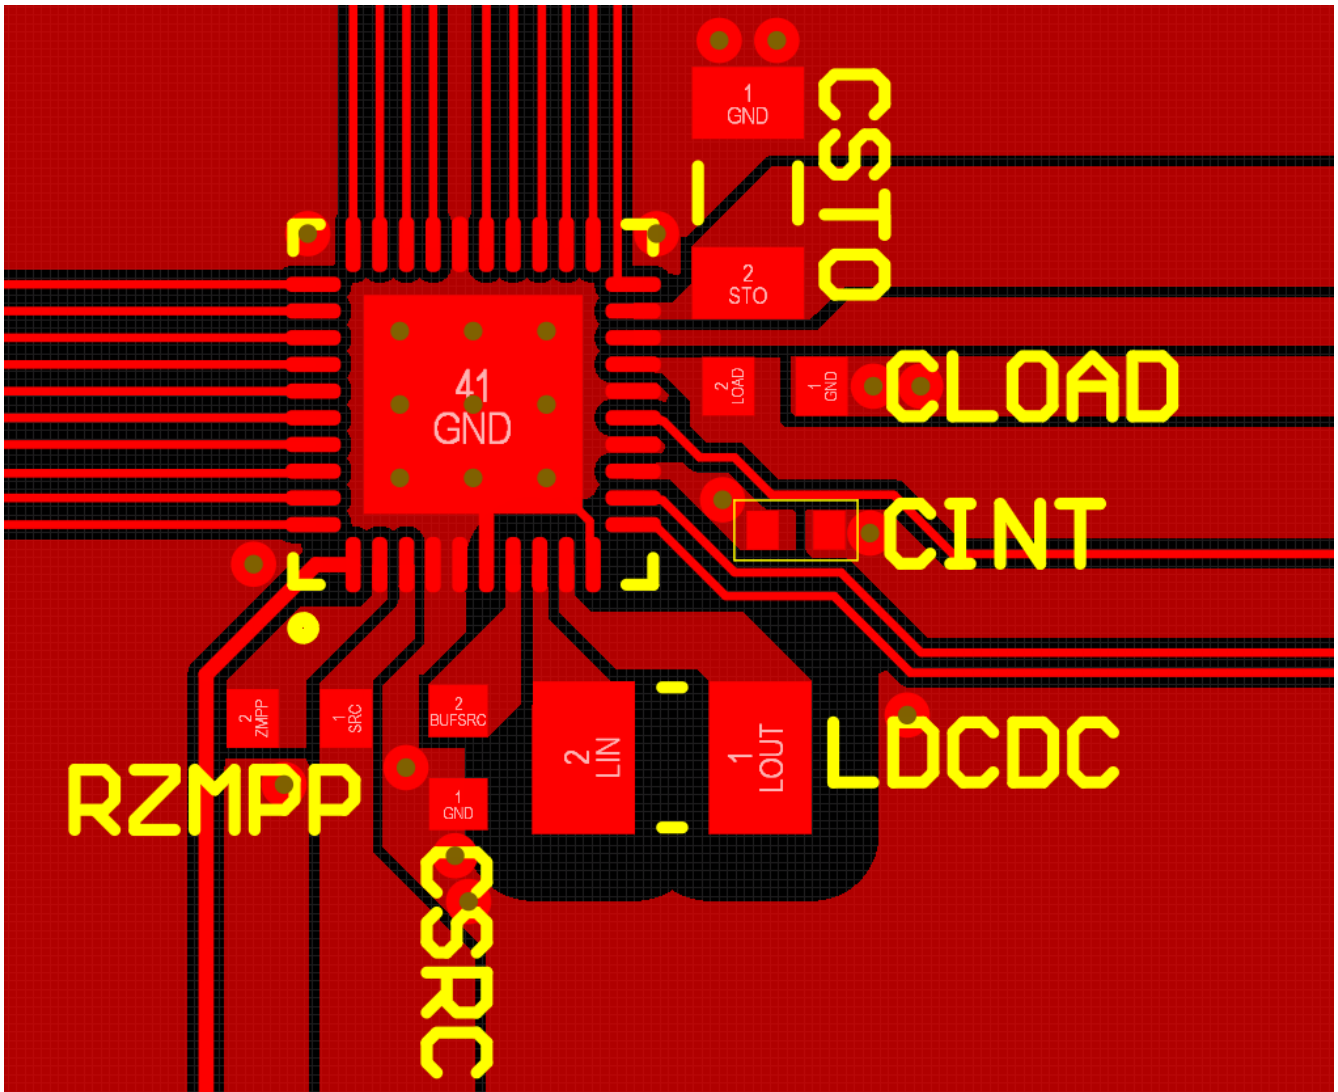

Figure 19: Layout Example for the AEM30330 and its Passive Components
- The switching nodes (**LIN** and **LOUT**) must be kept as short as possible, with minimal track resistance and minimal track capacitance. Low resistance is obtained by keeping track length as short as possible and track width as large as possible between **L_{DCDC}** and the AEM30330 pins. Minimal capacitance is obtained by keeping distance between **LIN/LOUT** and other signals. We recommend removing the ground plane, the power plane and the bottom layer ground pour under **L_{DCDC}** footprint, as well as adding distance between **LIN/LOUT** and the top ground pour, as shown on Figure 19.